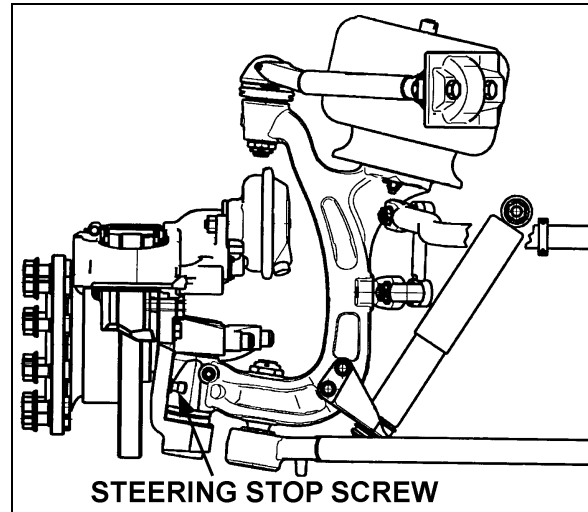

**FIGURE 15: PROPER CLOCKSPRING POSITION**
5. Break the paper seal and rotate the center part of the clockspring about 50° clockwise (Figure 15). This step is necessary for the installation of the steering wheel.